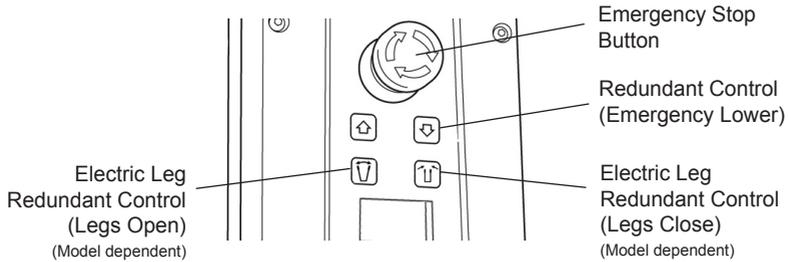

Fig. 4
- Clip the battery onto the control box and ensure the red emergency stop button, located on the controller is in the out (ON) position by turning clockwise (Fig. 4).